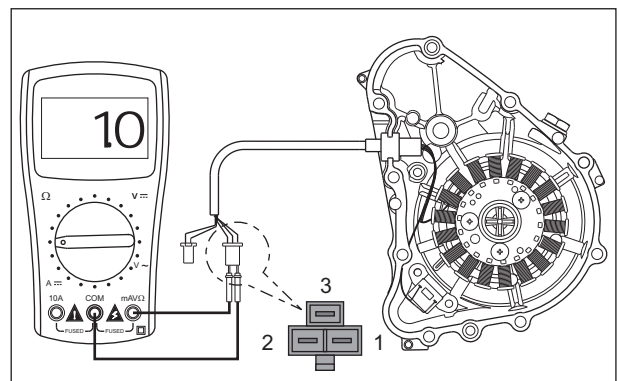

Fig. 5.10
- Since there is a 3 phase magneto assembly used in this vehicle, the stator assembly checking procedure is entirely different from other vehicles. (Fig. 5.10) The resistance of the stator assembly is to be checked between all the three faces. Follow the procedure given below:
- There are three yellow wires (Y) coming out of the stator assembly. Connect the pocket tester (+ve) lead to the first yellow wire (Y) and (-ve) lead to second yellow wire (Y) and measure the resistance. (Fig. 5.10)